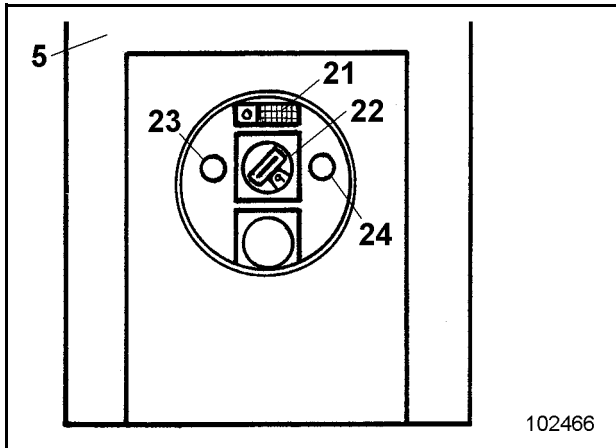
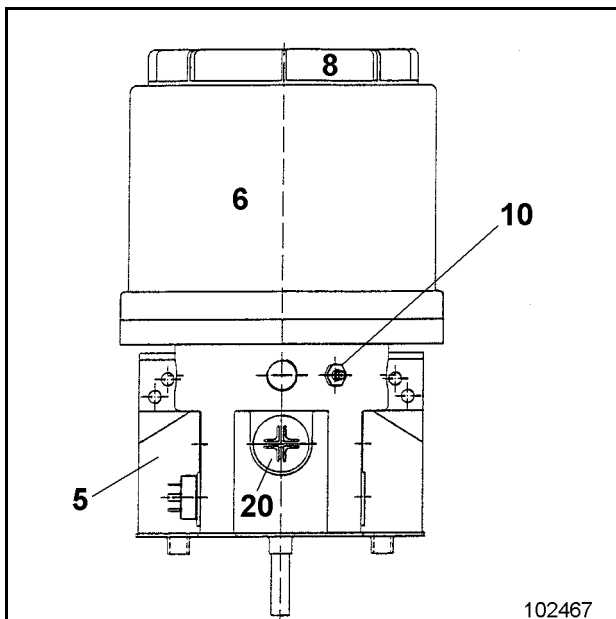

Fig. 1
Fig. 2
When the electrical system is switched on with the key- switch, the indicator lamp (23, Fig. 1) lights up and the lubricating system is activated. The indicator lamp (23) is visible after removing cover (20, Fig. 2).
All lubricating points connected to the system are greased at regular intervals. During the greasing cycle, indicator lamp (24, Fig. 1) is lit up.